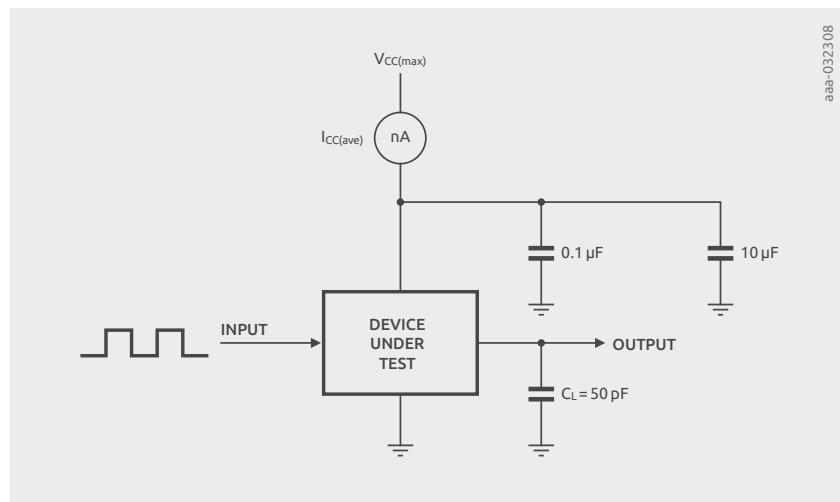

Figure 3.3 | Test set-up for C_{PD} determination
C_{PD} is specified in the CMOS device data sheets, the published values being calculated from the results of tests described in this section. The test set-up is shown in Figure 3.3. The worst-case operating conditions for C_{PD} are always chosen and the maximum number of internal and output circuits are toggled simultaneously, within the constraints listed in the data sheet. Devices that can be separated into independent sections are measured per section, the others are measured per device.
In the case of 74LVC244, I_{STAT} is negligible and can be considered as zero for the purpose of C_{PD} calculation. The test set-up for the '244 as indicated in *Conditions for C_{PD} tests* was used, with the load shown in Figure 3.3. At $V_{CC} = 3.6$ V, $f_i = 10$ MHz, $I_{CC(ave)}$ was found to be 2.24 mA.
In the case of 74LVT244, I_{STAT} cannot be considered as negligible at low frequency. As a result, a higher frequency is recommended for modeling its C_{PD} . The test setup depicted in Figure 3.3 has been used, however at a frequency of 30 MHz, $I_{CC(ave)}$ was found to be 11.53 mA. We then apply Equation (5) with the assumption that I_{STAT} is negligible.